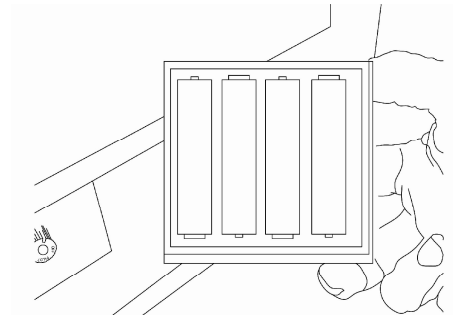

Figure 15
2. Remove battery cover along the direction showed on the battery box, and install four (4) AA batteries into the box. (See Figure 15 )